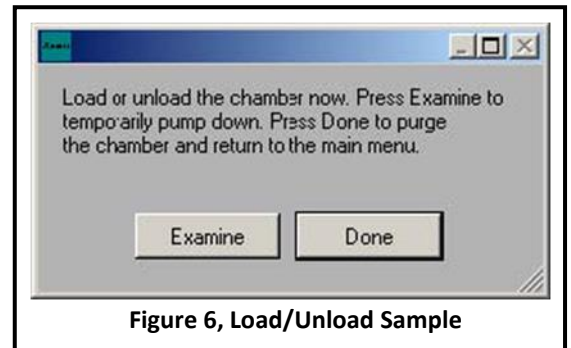

Figure 6, Load/Unload Sample
- 8.2 Figures 6
- Figure 6, Load/Unload Sample 5
6.3.4 Open the chamber lid when the dialogue box comes up. See *Figure 6, Load/Unload Sample*.
6.4.1 Press the Done button. See *Figure 6*.